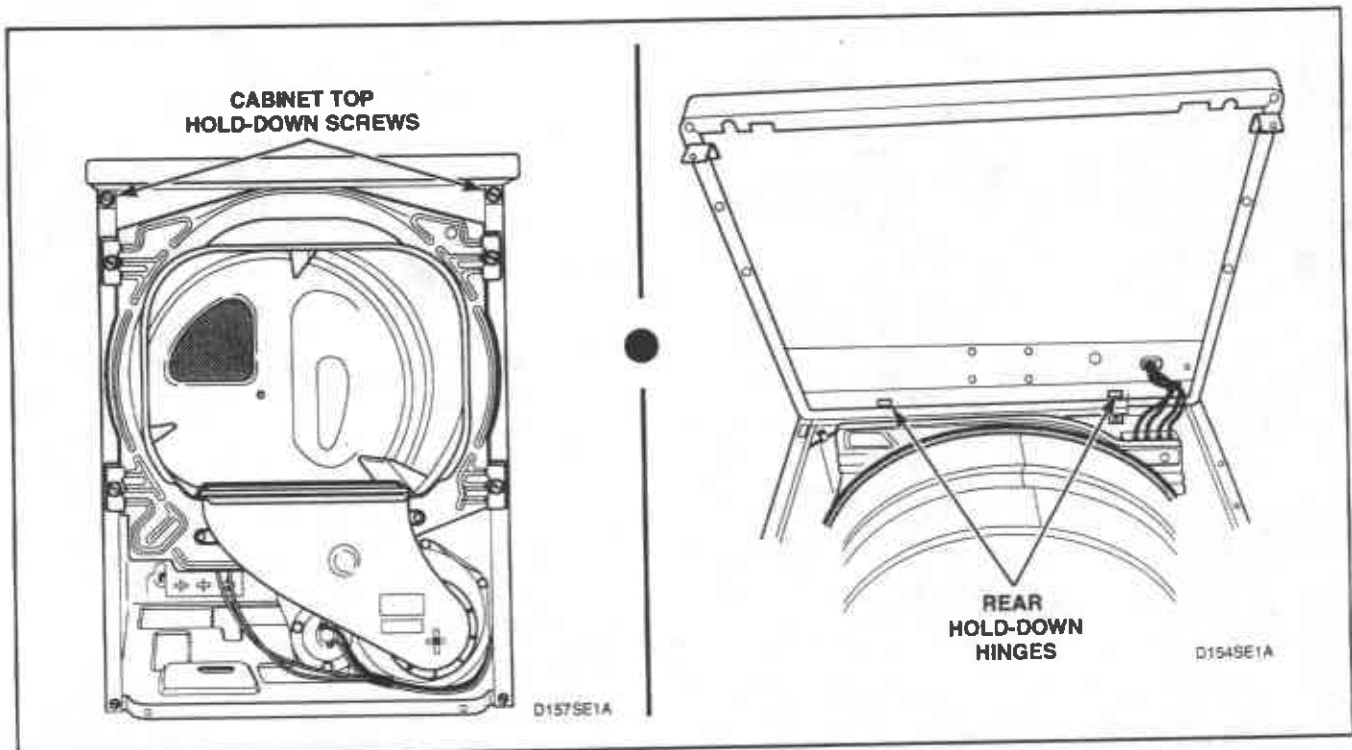

Figure 35
- e. Remove two cabinet top hold-down screws, *Figure 35*.
- f. Lift cabinet top to a vertical position by hinging it on the rear top hinges, *Figure 35*.
- g. Carefully withdraw wire harness through hole in cabinet top and lift the top off the top hinges, *Figure 35*.